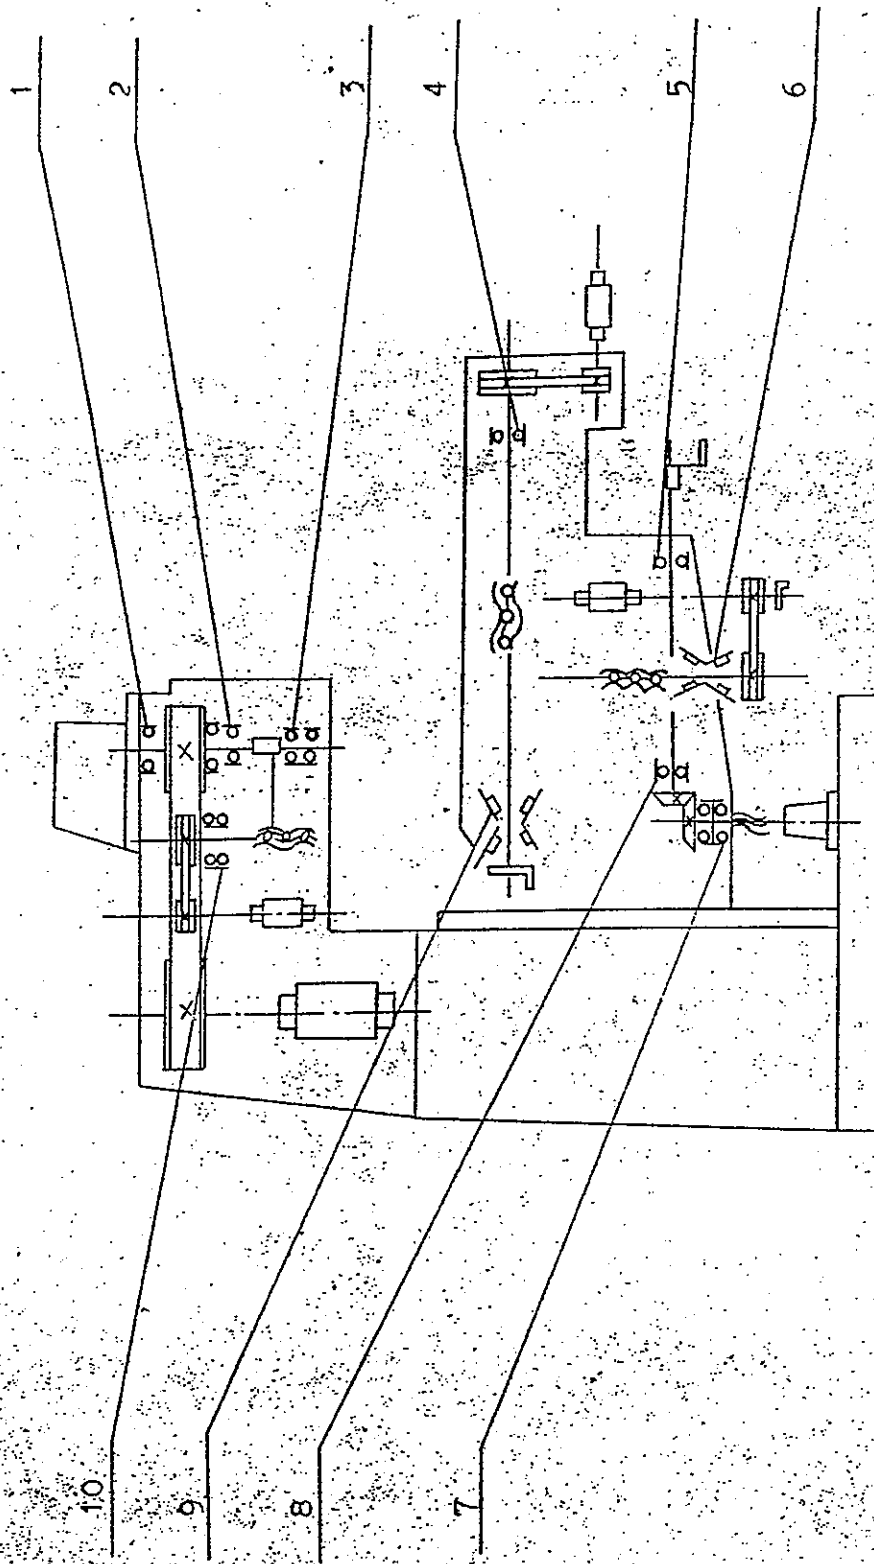

Fig. 9 Locations of rolling bearings
(4) All axes of ball screws and nuts assemblies are coux parts for machine precision. So it must be carefully to disassemble them without clash.
(5) Location of ball screws of machine is shown as Fig. 9 and List 1.